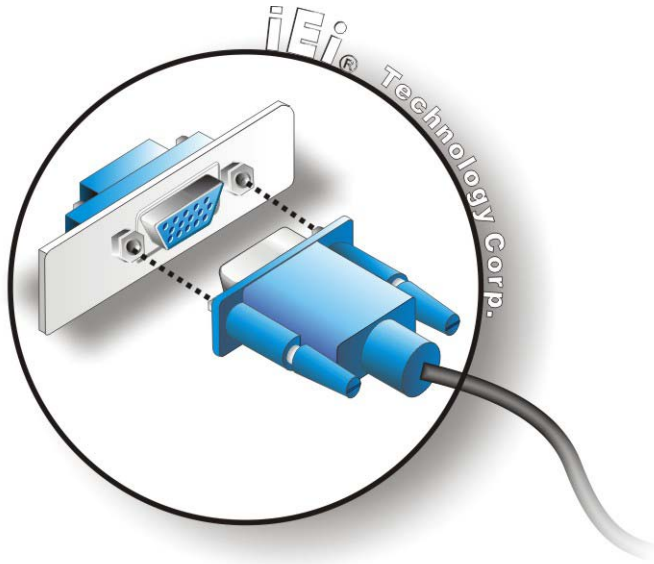

Figure 3-17: VGA Connector
Step 3: Insert the VGA connector. Once the connectors are properly aligned with the insert the male connector from the VGA screen into the female connector on the ECN-780-Q67. See **Figure 3-17**.